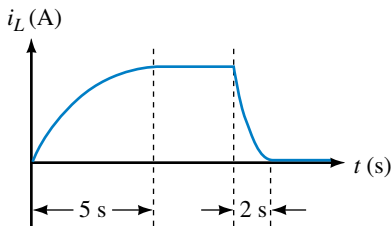

FIGURE 14-44
19. For Figure 14-43, $L = 20 \text{ H}$. The current during buildup and decay is shown in Figure 14-44. Determine R_1 and R_2 .